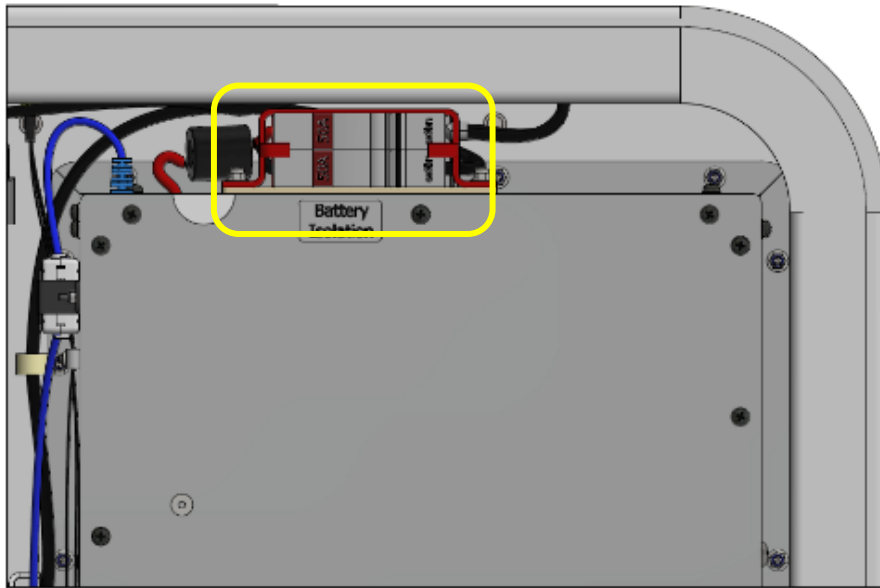

Figure 10 - Ensure breaker is OFF
4. Specifically, ensure that the integrated battery circuit breaker is turned OFF to ensure isolation (Figure 10).